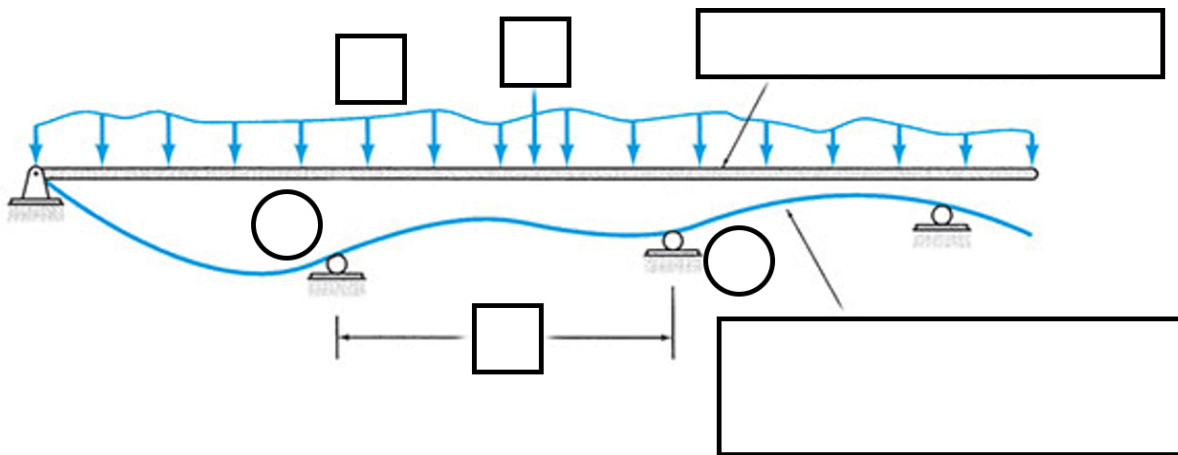

Figure 1. Example continuous beam¹.
- 3) For **derivation**, let's consider a beam as illustrated in Figure 1, where _____ is a cut section from a continuous beam.